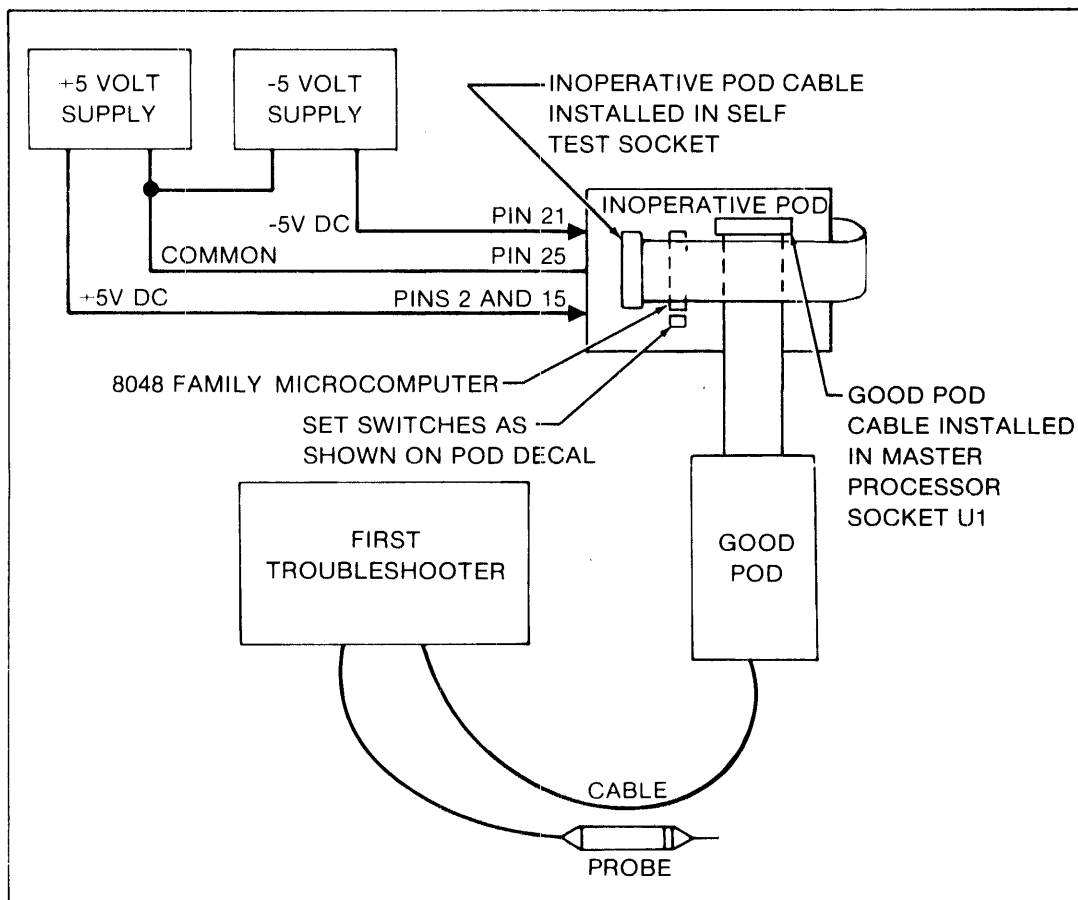

Figure 6-2. Troubleshooting an Inoperative Pod
7. If a second troubleshooter is available, connect the pod cable plug from the inoperative pod to the second troubleshooter to supply the inoperative pod with power. If a second troubleshooter is not available, connect a +5V dc (2A) power supply and a -5V dc (200 mA) power supply to the inoperative pod as shown in Figure 6-2. An easy place to make the power connections is at the connector that usually connects the cable to the troubleshooter. Connect pins 2 and 15 to +5V, pin 21 to -5V, and pin 25 to ground.
8. Connect the troubleshooter to the good pod as shown in Figure 6-2. Apply power to the troubleshooter, then install the ribbon cable plug of the good pod in the microcomputer socket of the inoperative pod.